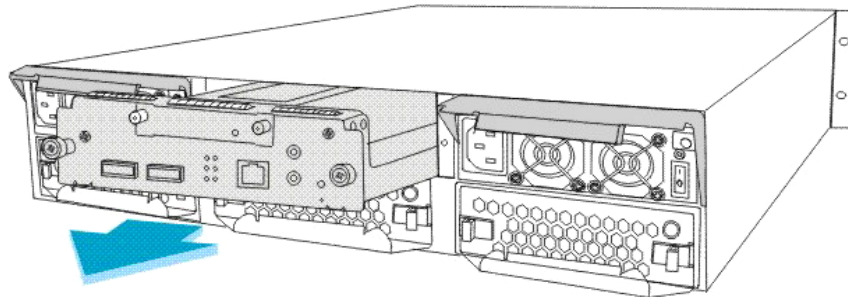

Figure 5-2: Removing Controller
Step 4. Remove the controller module by pulling the captive screws. (See *Figure 5-2*)